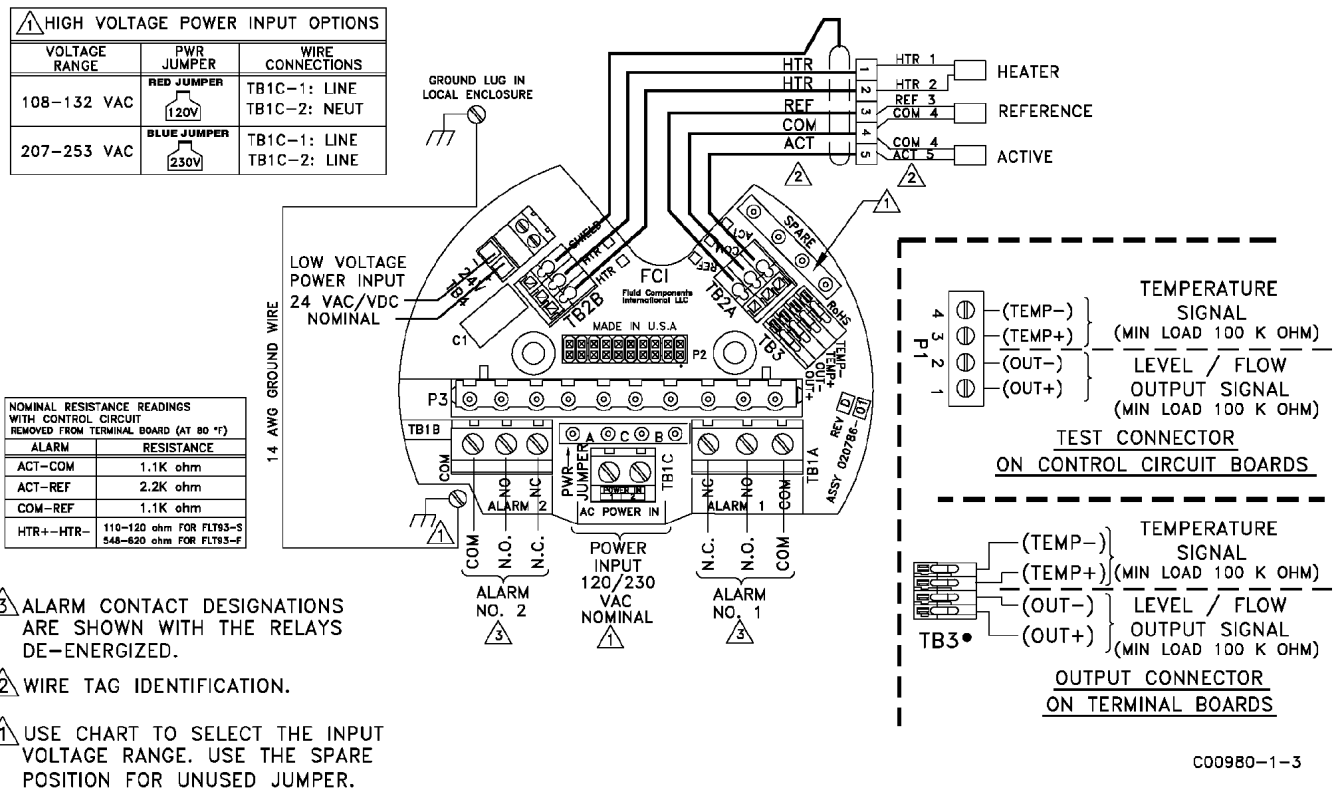

Figure 2-9 Remote Wiring Diagram
5. When connecting the relay wiring, do so with complete understanding of what the process requires of the instrument. The instrument has dual SPDT or single DPDT relay output contacts dependent on the jumper configuration for each alarm switch point. For the relay terminals and logic, refer to Figure 2-9. Also refer to Table 3-5 and Table 3-6 in Section 3 - Operation. Relay contacts are shown with the relays de-energized. Wire in accordance with the 'system requirements.